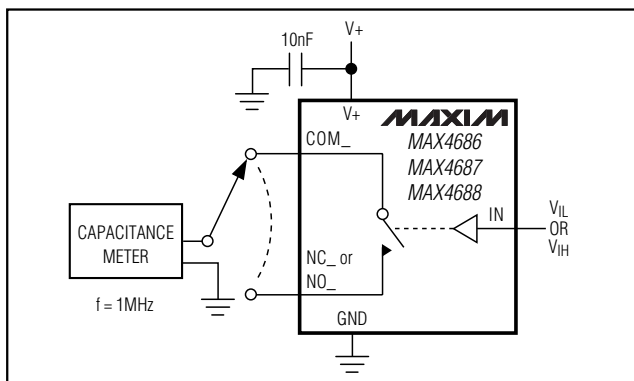

Figure 6. Channel Off/On-Capacitance
| NO, NC Off-Capacitance                   | C NO(OFF) ,C NC(OFF) | f = 1MHz, Figure 6                                                              | +25°C                                |     | 12   |     | pF    |
| COM Off-Capacitance                          | C COM(OFF)                          | f = 1MHz, Figure 6                                                              | +25°C                                |     | 12   |     | pF    |
| Switch On-Capacitance                        | C (ON)                              | f = 1MHz, Figure 6                                                              | +25°C                                |     | 35   |     | pF    |